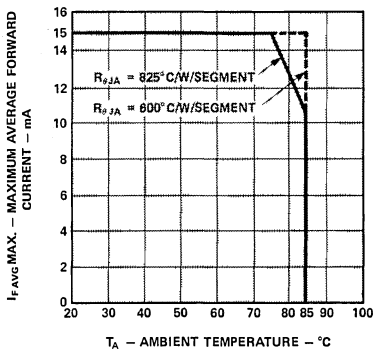

Figure 1. Maximum Allowable Average or DC Current per Segment vs. Ambient Temperature
2. For the HDSP-A101, HDSP-E100 and HDSP-H101 series, derate maximum average current above $T_A = 75^\circ\text{C}$ at 0.5 mA/ $^\circ\text{C}$ per segment, see Figure 1. For the HDSP-N100 series, the maximum average current does not need to be derated at 85°C operation.